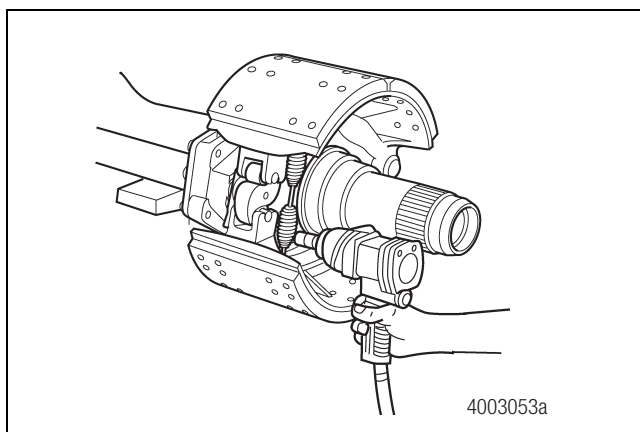

Figure 3.18
2. Use a 1-1/8-inch socket and wrench to remove the camshaft bracket-to-housing screw and nut. Disconnect the brake lines. Figure 3.18.
- **If you have to remove the spindle:** Use a 5/16-inch socket and wrench to remove the brake assembly capscrews. If necessary, remove the brake shoe return spring to remove the capscrews. Refer to Section 5. Figure 3.18.